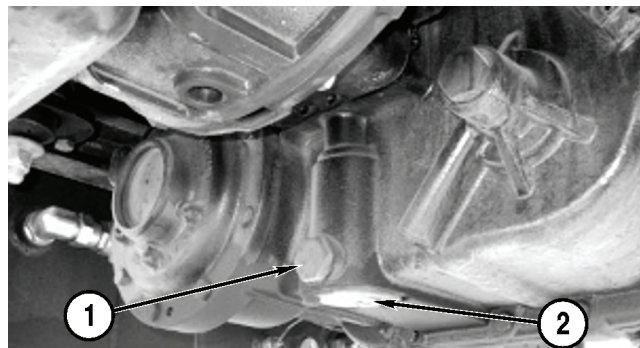

Figure 5-50
1. Remove the drain plug (**Figure 5-50, 1**) and drain the transmission fluid into a suitable container.
4. Remove the strainer (**Figure 5-50, 2**), clean with diesel fuel and reinstall the strainer and plate.